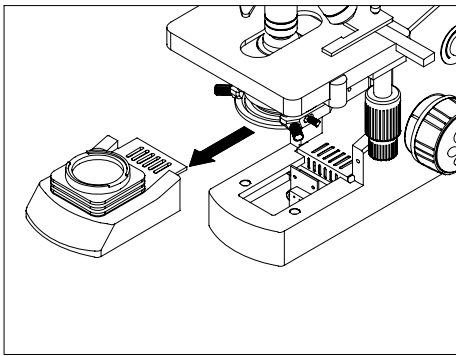

Fig.11
1. Pull out the condenser holder as shown in Fig.11.
2. Hold the bulb① after you wrap it with gauze or other protection materials, and then insert its pin② deeply into the jack in the lamp holder.